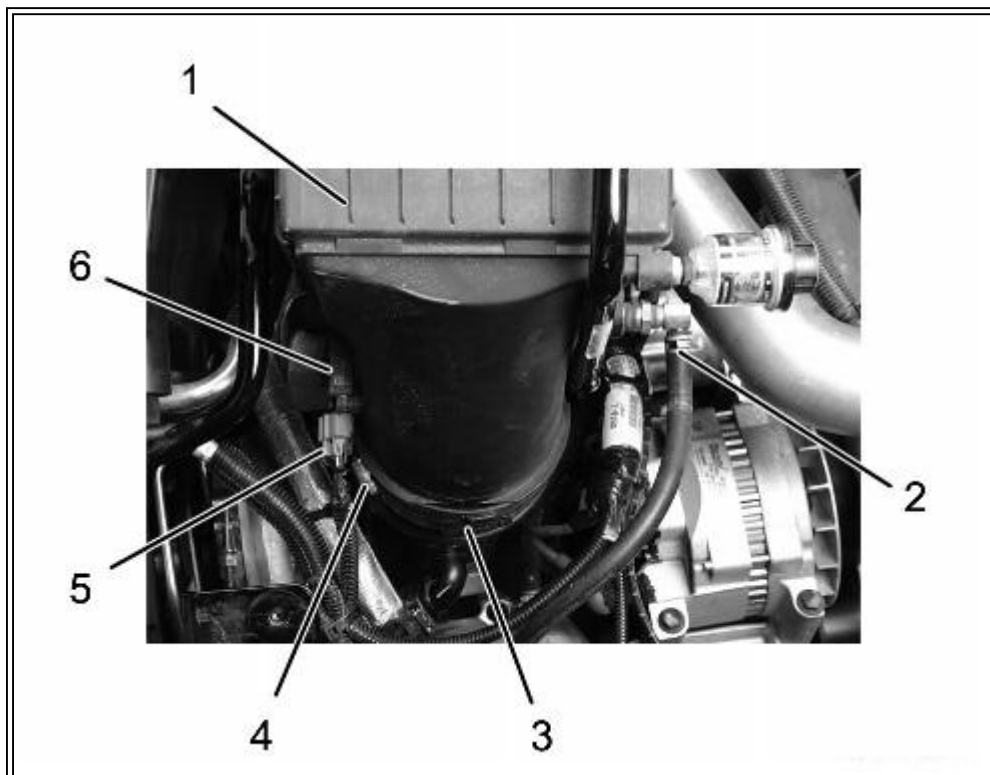

Figure 1. MAF Sensor and Air Compressor Inlet Hose.
6. Disconnect MAF sensor connector (Figure 1, Item 5) from MAF sensor (Figure 1, Item 6).
7. Disconnect air compressor inlet hose (Figure 1, Item 2) from air box (Figure 1, Item 1).
8. Loosen air box to LP turbocharger inlet elbow duct clamp (Figure 2, Item 4) and remove LP turbocharger inlet elbow duct (Figure 1, Item 3).